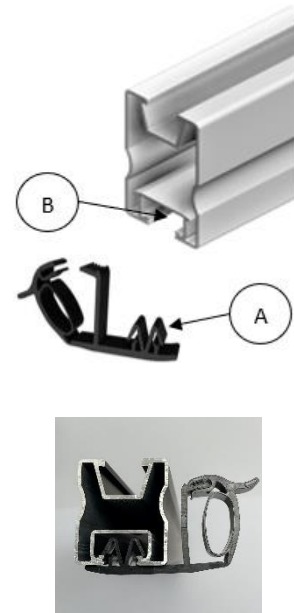

Fig 4.4.3A: Rail cable clip attached to Proline rail
- Position the clip (A) of the rail cable clip underneath the bottom (rectangular) channel (B) of the Proline rails.
- Insert cable clip by pushing firmly into the channel, until it snaps in, as shown in Fig 4.4.3A.